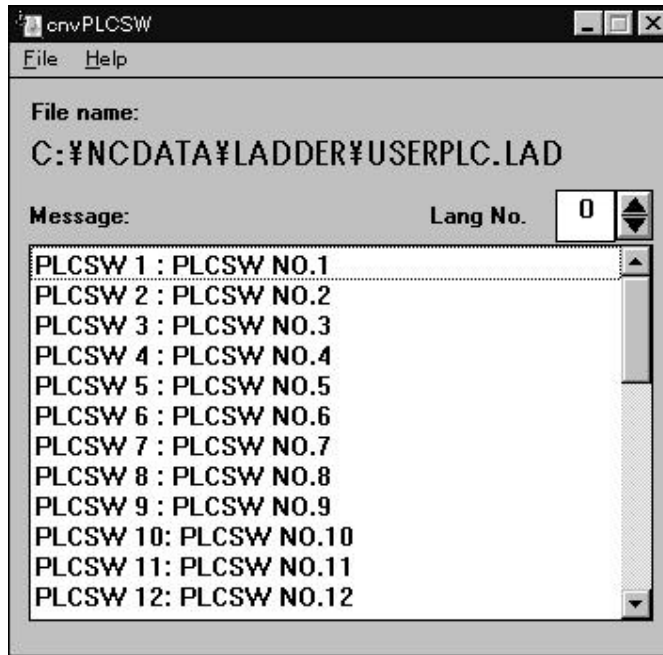

Fig. 4-4 PLC switch conversion window
- (2) Select the conversion source file in the File open window, and then click on the [OK] button. The conversion source file will be read in, and the PLC switch name data will display in the window (Fig. 4-4).